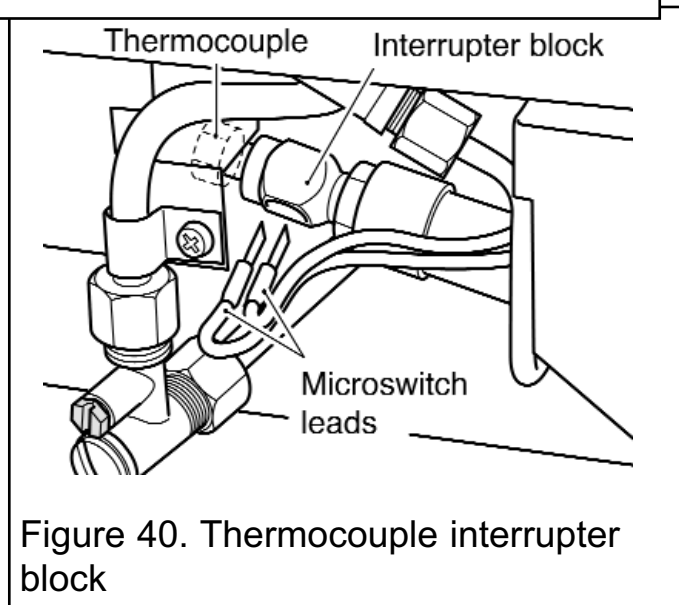

Figure 40. Thermocouple interrupter block
2. Loosen the thermocouple nut to free the microswitch leads and pull the leads clear of the thermocouple interrupter block (See figure 40).
(See figure 40).